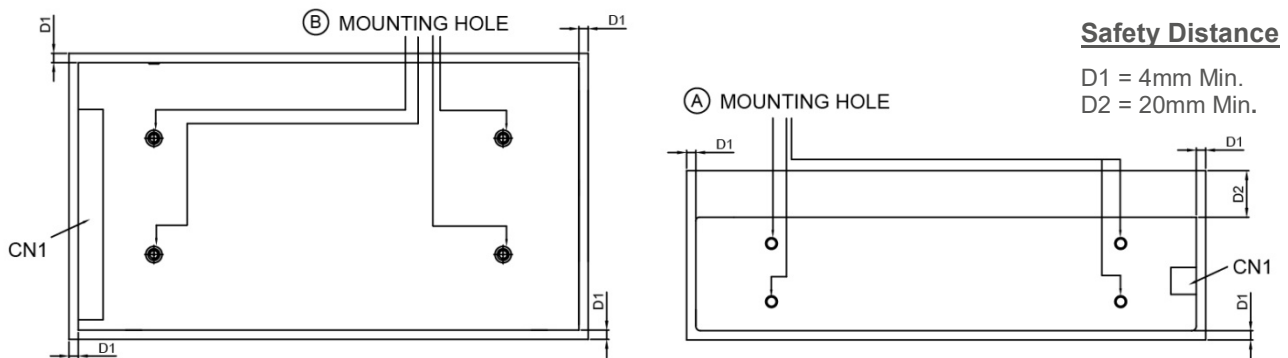
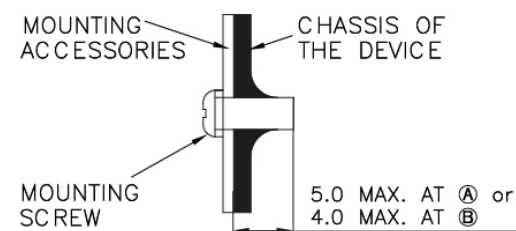

Fig. 3 Mounting Hole Locations and the Safety Distance
Fig. 4 Assembly Reference
- Ⓐ Side Mounting: Fig. 2 and Fig. 3 show the mounting hole locations for power supply assembly onto a metal mounting surface. The power supply shall be mounted on minimum of 4 mounting holes using M4 screw maximum 5mm (0.20 inch) length (Refer to Fig. 4). This is to maintain a safety distance between the screw and internal components.
- Ⓑ Base Mounting: Fig. 2 and Fig. 3 show the mounting hole locations for power supply assembly onto a metal mounting surface. The power supply shall be mounted on minimum of 4 mounting holes using M4 screw maximum 4mm (0.16 inch) length (Refer to Fig. 4).